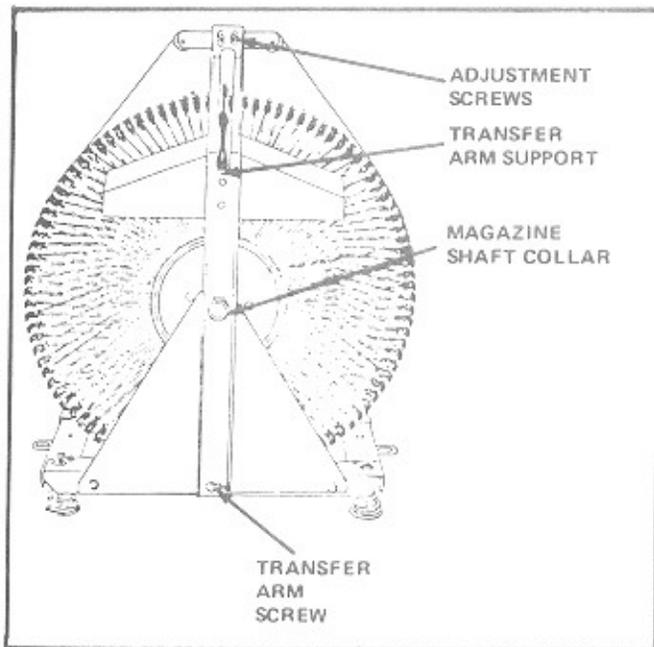

Figure 3-14. Magazine Belt Adjustment
1. Loosen the two adjustment screws shown in Figure 3-14.